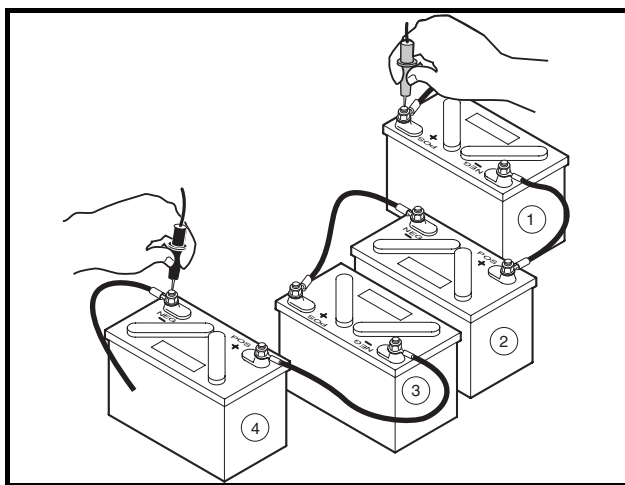

Figure 3-14 DS, DS Villager 4, 800, 810 and 850
- 4.1. **DS, DS Villager 4, 800, 810 and 850:** With a multimeter set to 200 volts DC, measure the voltage of the battery pack between the positive (+) post of battery no. 1 and the negative (–) post of battery no. 4 (Figure 3-14, Page 3-19).